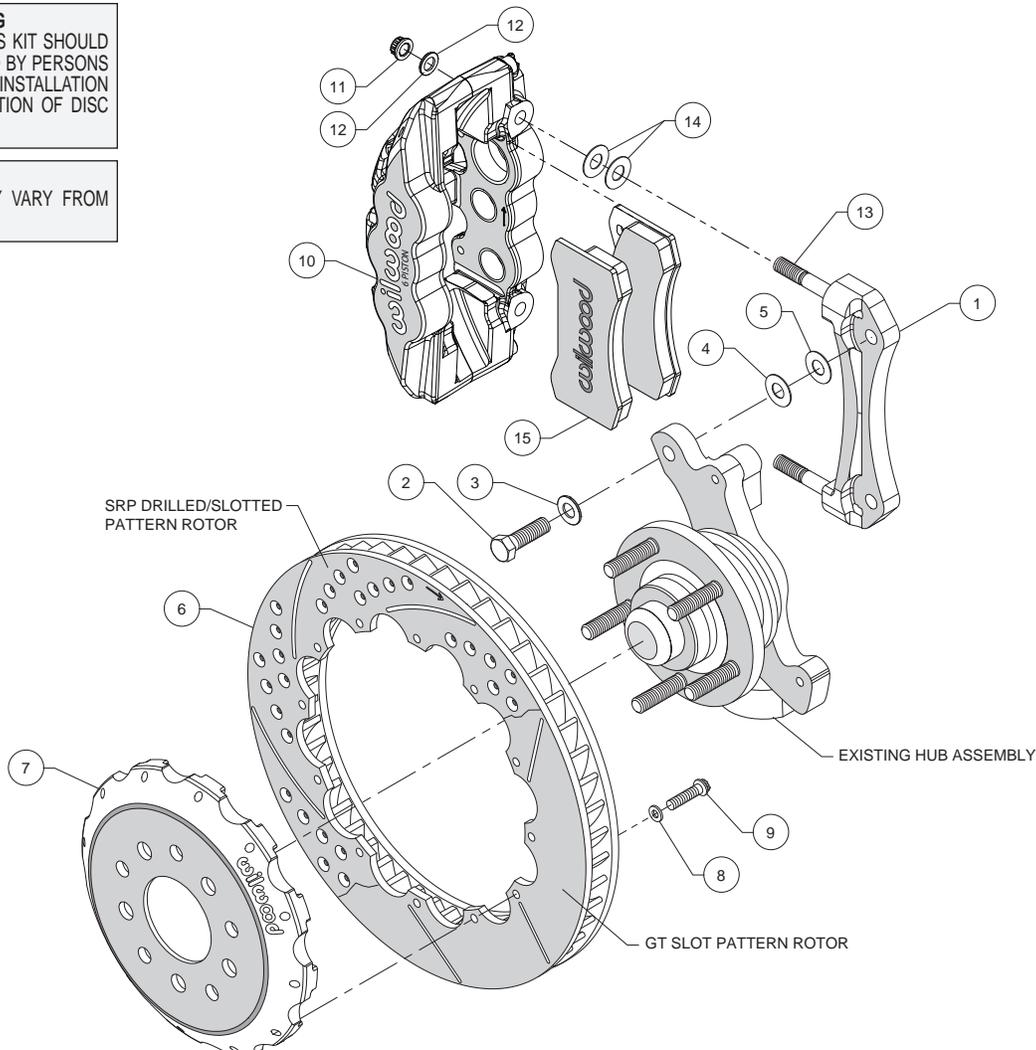
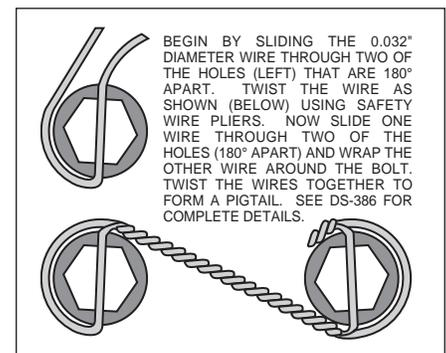

Figure 1. Typical Installation Configuration
Figure 4. Safety Wire Diagram
- The caliper mount bracket assembly (1) should be installed first with clean, dry threads on the mounting bolts. Install the bracket on the inboard side of the spindle by sliding bolt (2) through flat washer (3), and spindle ear from the outboard side of the spindle. Place two shim washers (5) between the bracket (1) and the spindle (see figure 1). The bracket must tighten squarely against the inboard side of the modified caliper mount bosses on the spindle body. Inspect for interference from casting irregularities, machining ridges, burrs, etc. Later, after the caliper, pad, and rotor alignment has been checked, and any necessary shims have been put in place, the mount bolts should be coated with red *Loctite*[®] 271 and torqued to 60 ft-lbs.
- With the larger I.D. side of the rotor (6) facing away from the hat (7), bolt the rotor (6) to the hat (7) through the backside of the rotor using washers (8) and bolts (9) provided in the configuration pictured in figure 1. Using an alternating sequence, apply red *Loctite*[®] 271 to the threads and torque bolts to 155 in-lb. For an added measure of security, the bolts may be safety wired using standard 0.032 inch diameter stainless steel safety wire as shown in Figure 4. Please refer to Wilwood's data sheet DS-386 (available at www.wilwood.com/Pdf/DataSheets/ds386.pdf) for complete safety wire installation instructions.
- Lubricate caliper mounting studs (13) and nuts (11) with lightweight oil. Install two shims (14) over each stud (13) on the radial mount bracket. Slide the caliper (10) in place over the studs and rotors and install the washer (12) and lock nut (11) to hold the caliper in place. The caliper bleed screws should be pointing up. Snug the lock nuts (11) and check that the rotor (6) is centered in the caliper (10). Add or subtract shims (4 and/or 5) as necessary between the mounting bracket (1) and the spindle to center the caliper (10).
- Remove the two pad retaining pins from the caliper (10) by carefully popping out the pin retaining clips and sliding out the pins. Insert the brake pads (15) into the caliper from the bottom, Figure 1. With the friction material facing the rotor, secure the brake pads in place with the pad retaining pins and clips. Reinstall the caliper onto the caliper mounting bracket and temporarily tighten the lock nuts. Check that the top of the brake pad is flush with the outside diameter of the rotor. If not, adjust by adding or subtracting shims (14) between the caliper and the bracket.
- Once all clearances have been checked, remove the wheel, caliper, hat, and rotor from the spindle and hub. Secure the caliper mounting bracket (1) to the spindle using red *Loctite*[®] 271. Torque the bolts to 60 ft-lbs. Reinstall the hat and rotor assembly and again use three lug nuts to hold it in place. Reinstall the caliper, torque the caliper nuts (11) to 30 ft-lbs.